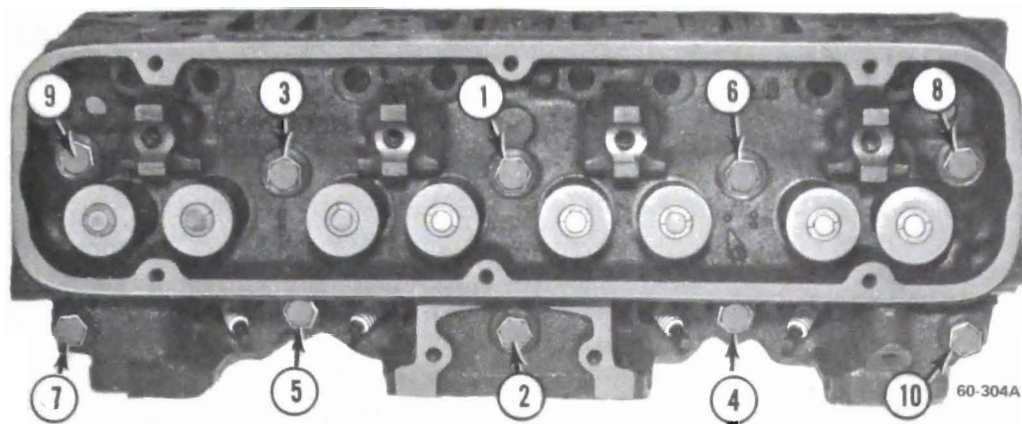

Figure 60-211 Cylinder Head Bolt Tighten Sequence (350 Shown)
5. Install head bolts. Tighten the bolts a little at a time about three times around in the sequence shown in Figure 60-211. Give bolts a final torque in the same sequence. Torque to 73 lb.ft. (350 Cu In.) and 100 lb. ft. (455 Cu. In.).